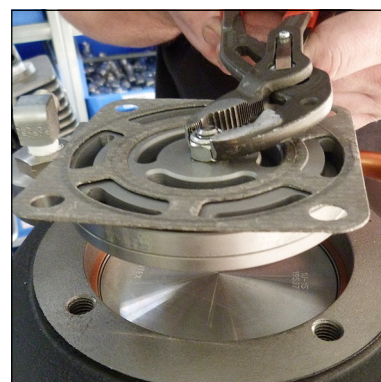

Fig. 2 - Pull out inlet and outlet valve
- Pull out inlet and outlet valve (Fig. 2)